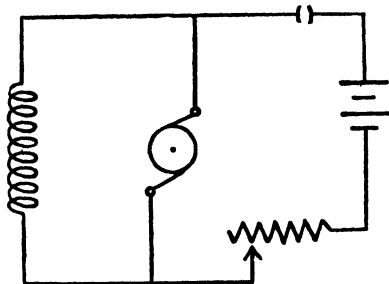

FIG. 306.
the armature begins to revolve. To stop the motion, again increase the resistance. Fig. 306 shows the conventional diagram of a shunt-wound motor with starting resistance.
2. With the help of fig. 306 draw the conventional diagram for a shunt-wound dynamo with a lamp in the external circuit.